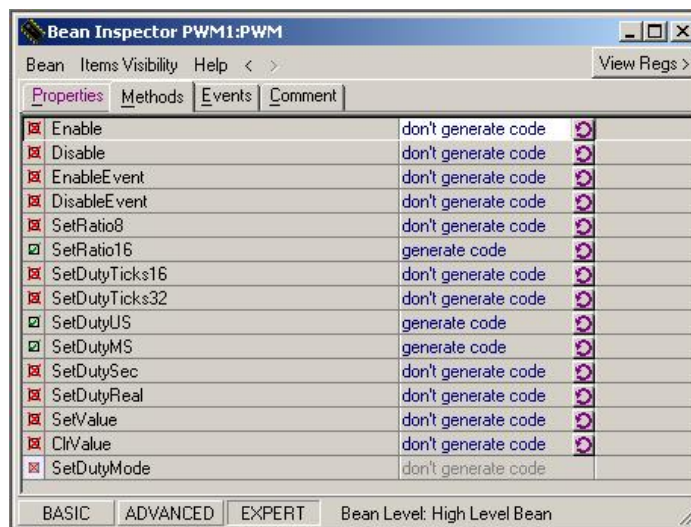

Figure 37. Bean Inspector Window - Methods for PWM Bean
5. Select which Methods to create by selecting the Methods tab (Figure 37) in the Bean Inspector window. Click the round arrow button (⌚). For this bean, the methods that used are: